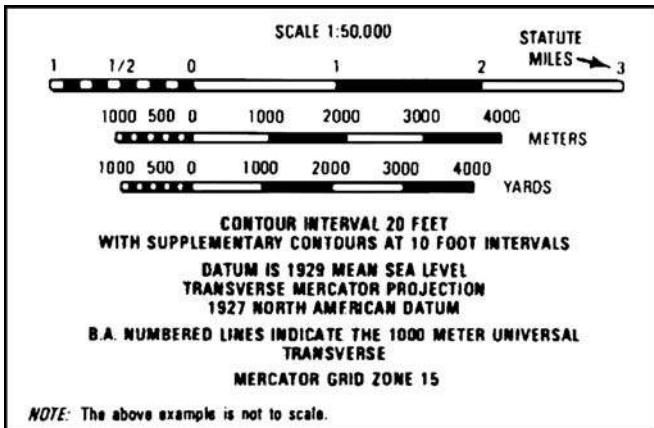

Figure 071-329-1008-1. Bar scales
- Convert a straight-line map distance to miles, meters, or yards using the map's bar scale (figure 071-329-1008-1).